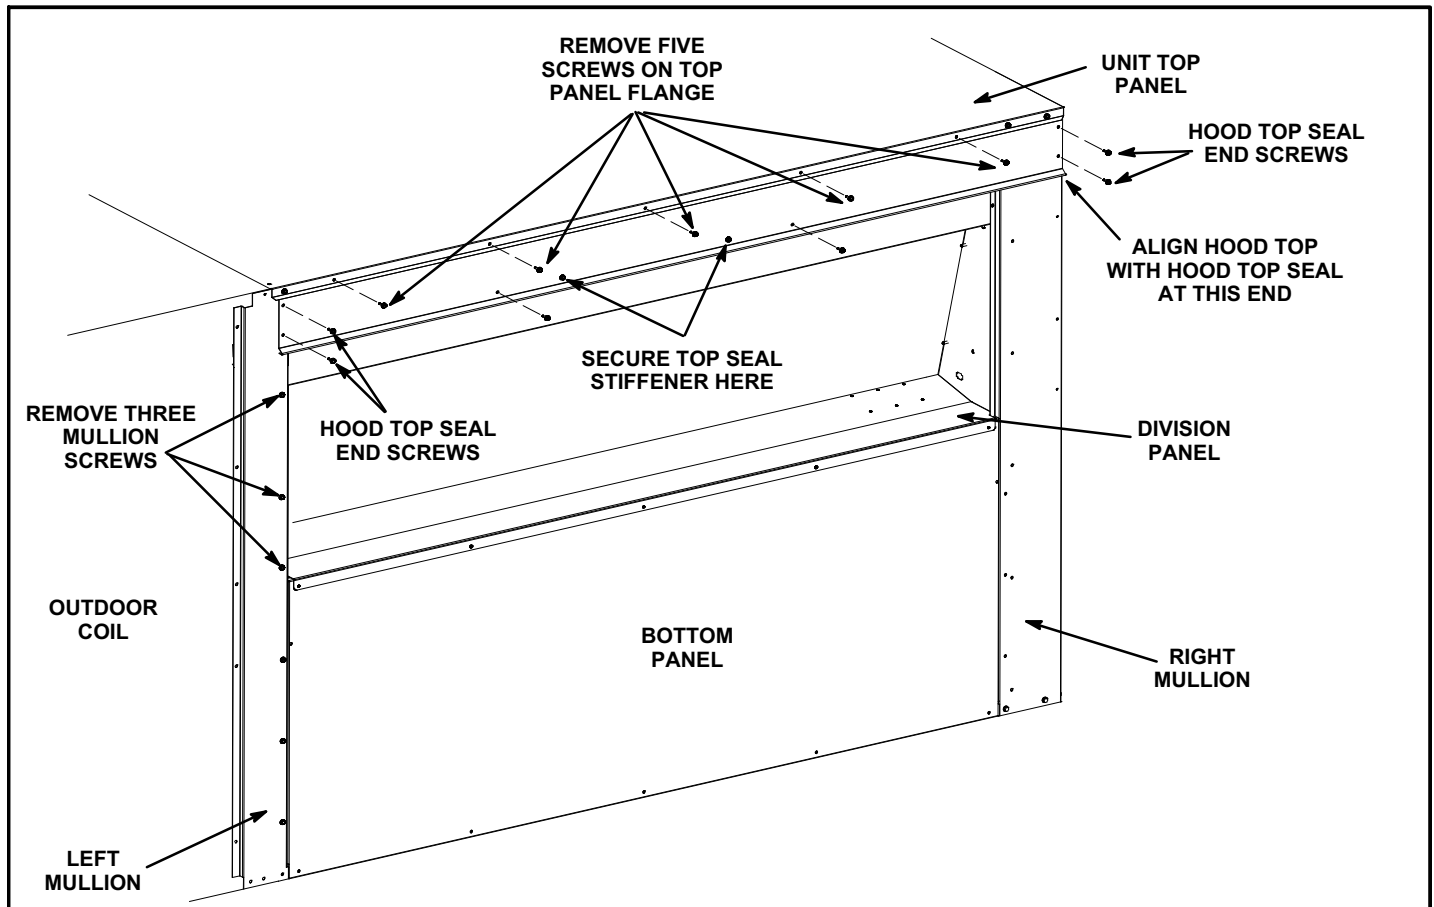

FIGURE 5
- 3- Slide hood top seal under unit cabinet top and secure using five retained top screws. Install, but do not tighten, the two screws on each end of the hood to seal. Refer to figure 5.
- 4- Remove and retain top three screws on the left mullion of the outdoor air section. See figure 5.